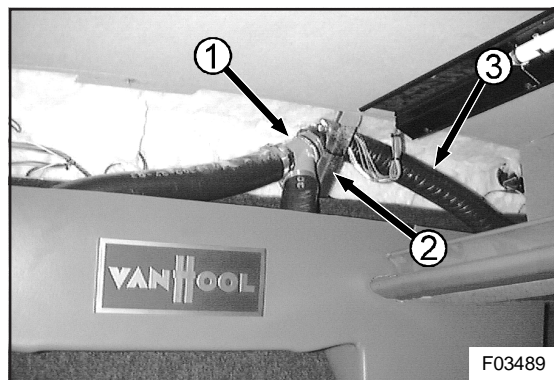

Figure 9: Y-piece (1), roof reinforcement tube (2) and feeder hose (3)
11. Loosen Y-piece hose clamp next to roof reinforcement tube. Pull Y-piece from feeder hose (see Figure 9) . Retain hose clamp.
7. Guide new hoses over roof reinforcement tube (2-Fig. 9).